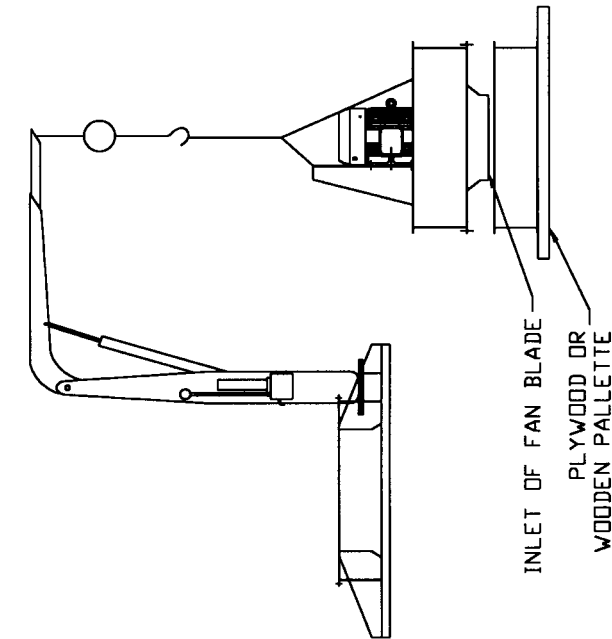

FIGURE 6
- 10) Lower the fan onto plywood or a wooden pallet. (Figure 6)
- 11) When the fan has been fully lowered, unbolt the housing flange to the vane section. (Figure 6)
- 12) Raise the fan once more, pull the housing away and lower the fan back down. The fan is now resting on the inlet of the fan blade. (Figure 6)
- 12) Lower acoustical silencer nozzle onto plywood or a wooden pallet. (Figure 6)
- 13) Unbolt the housing flange to the vane section. (Figure 6)
- 14) Raise the fan once more, pull the housing away and lower the fan back down. The fan is now resting on the inlet of the fan blade. (Figure 6)